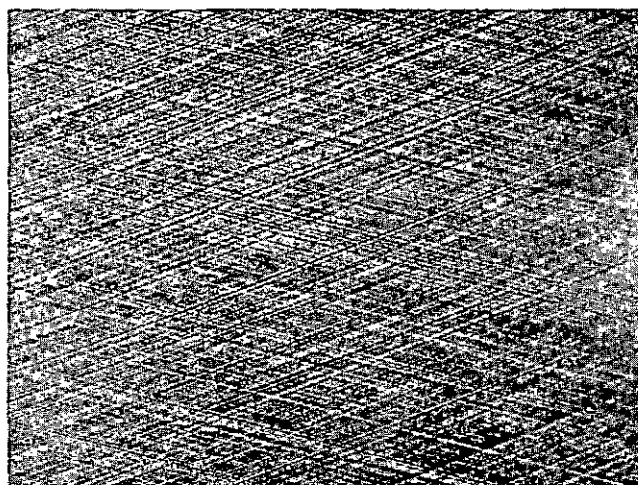

Fig. 1-2-5, N20153. Cylinder liner cross-hatch pattern
10. Do not start drill motor. Practice stroke a few times for "feel" with stones expanded loosely in liner and not in actual contact with walls. Down stroke hits stop, but operator must stop stroke at top allowing stones to extend out top of bore 1/2 inch [12.7000 mm] to 1 inch [25.4000 mm]. Stroking speed required to produce a 35 deg. to 45 deg. crosshatch is approximately 50 strokes per minute. Fig. 1-2-5.
10. After pattern is uniform, stop hone; adjust stones to a firm but light pressure. Apply oil and make 4 or 5 full-length strokes and shut drill off while continuing stroke. Double stroke in bottom if necessary to time actual stopping of hone rotation when hone is at top of bore. This preserves cross-hatch pattern, and puts true stone pattern (20 to 30 rms finish) on cylinder walls. Fig. 1-2-5.